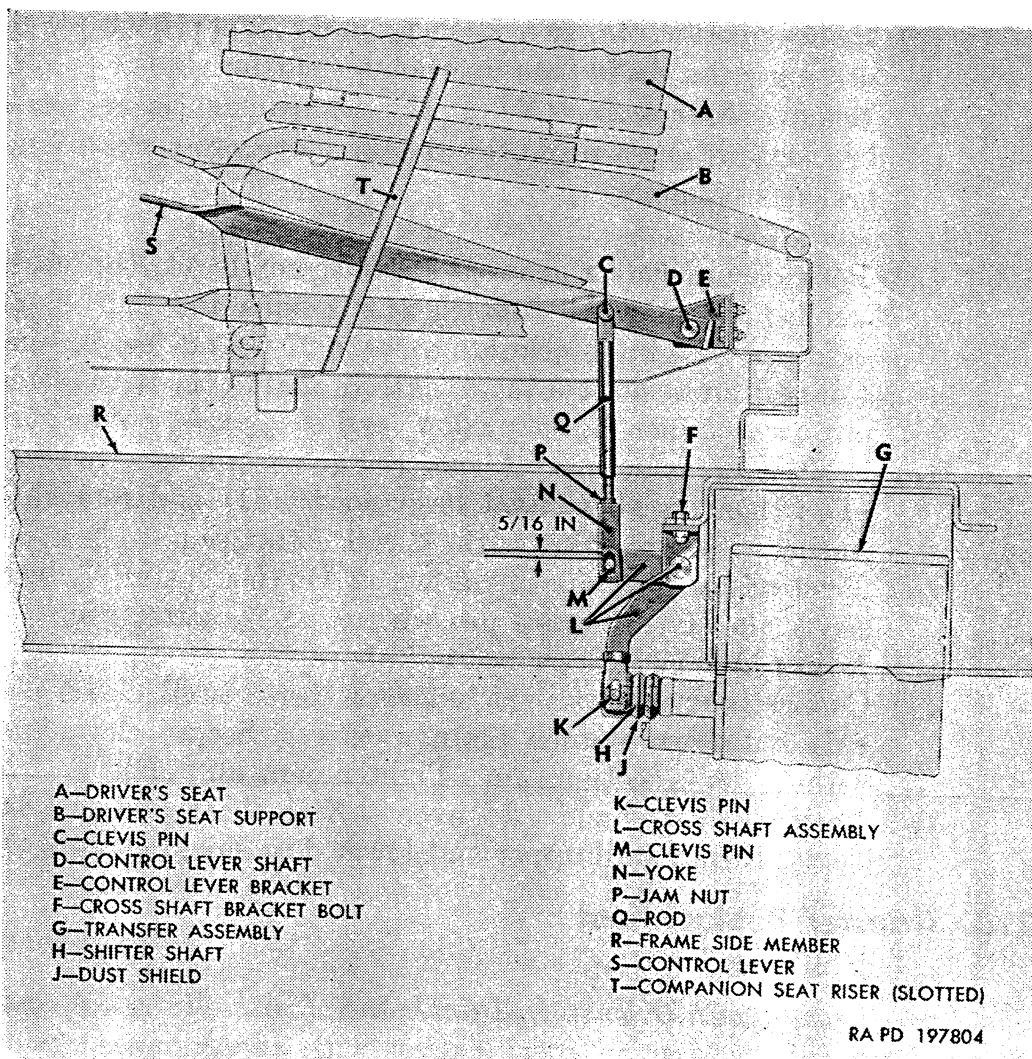

Figure 216. Transfer lever linkage.
*Note.* Key letters noted in parentheses are in figure 216.
*a. General.* Transfer is placed into neutral and driving positions with manually operated transfer lever, located above floor slightly to right of driver's seat (A). Through linkage, manually operated lever actuates power-take-off shifter shaft in transfer. With transfer lever raised to UP-ENGAGED position, transfer is in driving position. When transfer lever is lowered to DOWN-NEUTRAL position, transfer is in neutral.
*b. Adjustment.* With handoperated transfer control lever (S) in UP-ENGAGED position, and with lever resting on lower edge of guide slot in companion seat riser (T), make sure shifter shaft (H) in transfer is pulled out (forward) to detent stop. Loosen jam nut